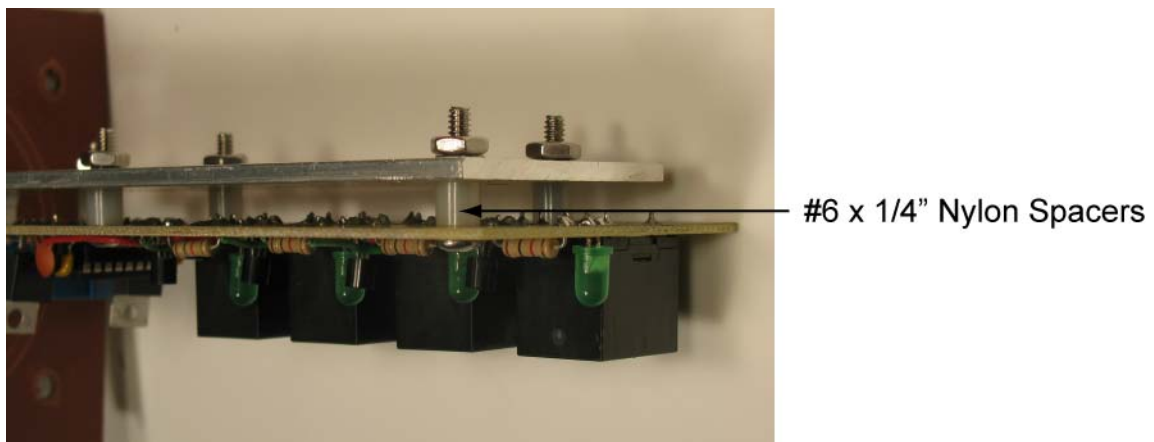

Figure 16: Mounting the PCB to the Mounting Bracket
- Attach the PCB to the mounting bracket with 5 - #6-32 x 3/4" stainless steel screws and 5 #6 x 1/4" nylon spacers. Refer to Figure 16.